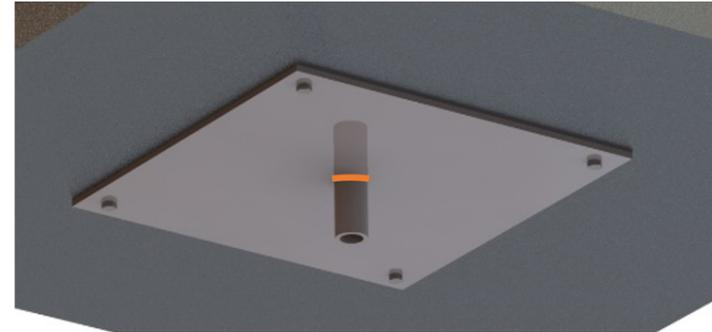

Figure 3 - Welding zone Connector-Piston Rod Guide
Weld the Cylinder-Sliding Pieces Connector (21) to the Piston Rod Guide (22), figure 3, make sure the Piston Rod Guide (22) is **centered**.